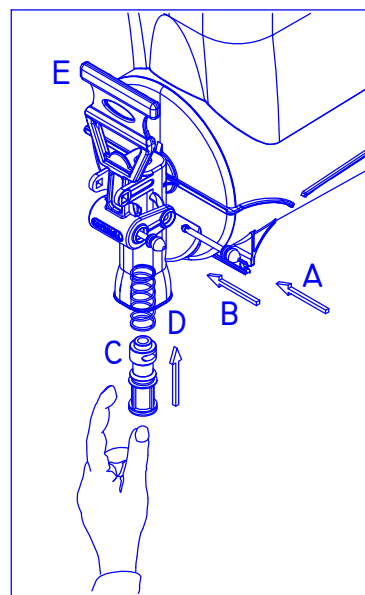

Fig. 24
- 2) Lubricate the tap valve C with the vaseline supplied with the machine and push it into the product supply hole along with the spring D then insert the rotation pin A. ( Fig . 24)